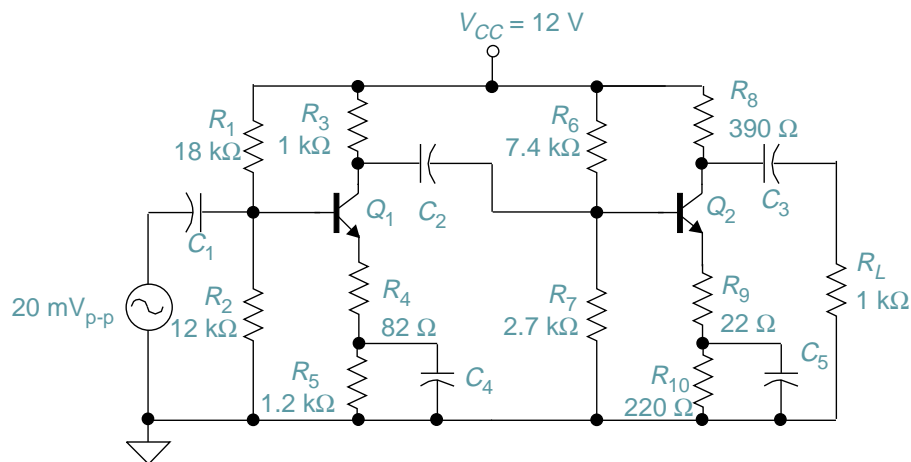

FIGURE 5-29
7. Find the values requested below for the circuit in Figure 5-29.
8. If the lowest frequency of operation is to be 1 kHz, select a value for  $C_1$ ,  $C_2$ ,  $C_3$ ,  $C_4$ , and  $C_5$  in the circuit in Figure 5-29.